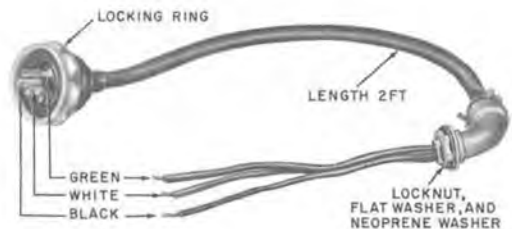

Fig. 12—KS-19580, List 30 Power Cord Assembly
- 2.25** KS-19580, List 30 power cord assembly (Fig. 12) is available for overhead power.